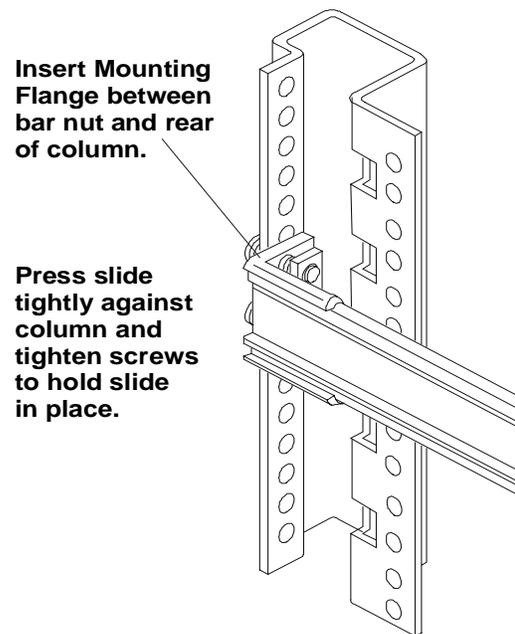

Figure 8-8. Securing Slide to the Rack Column
2. Insert the slide front and rear mounting flanges between the column and bar nuts. Press the slide firmly against each rack column (see Figure 8-8).